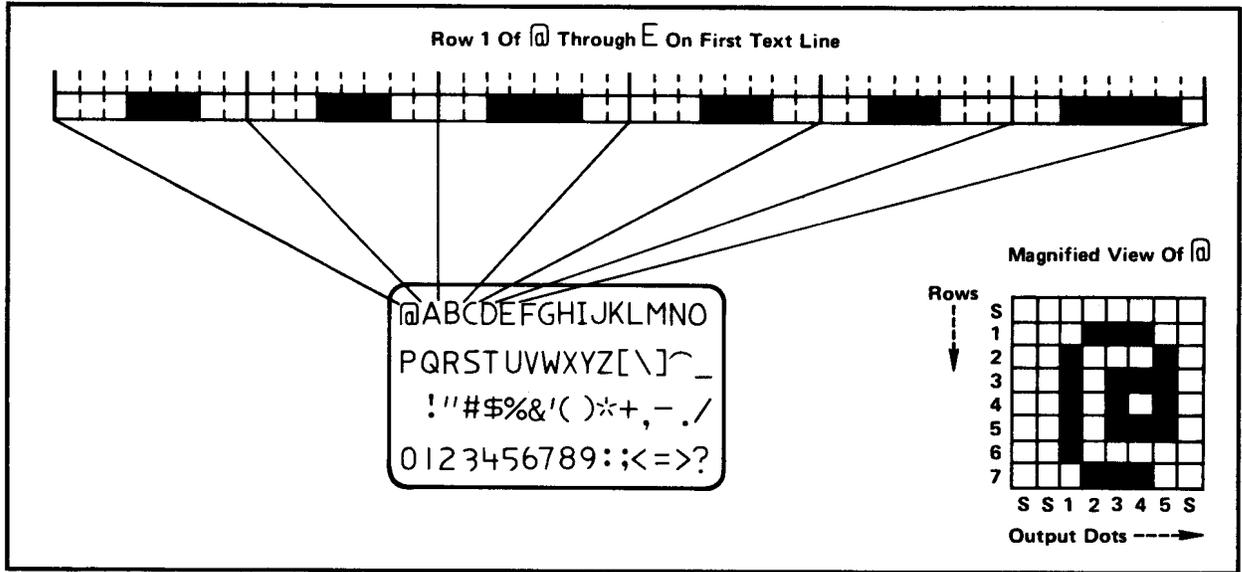

Figure 10, Character Generation
3.20 The ROM is set up and then, as shown in Figure 10, sends out five dots (or lack of dots) representing the top row of the first character in a continuous stream that is stepped out of the ROM and through the parallel to serial converter. Then the top row of the second character, third, fourth, etc., are sent until all sixteen character positions of the first text line are out. A text retrace counter advances by one and the same row repeats itself slightly lower vertically than the first sweep. This counter again advances so that the row of dots is repeated on four horizontal traces which make up the first or top row. An address counter then advances permitting the second row to be output four times.